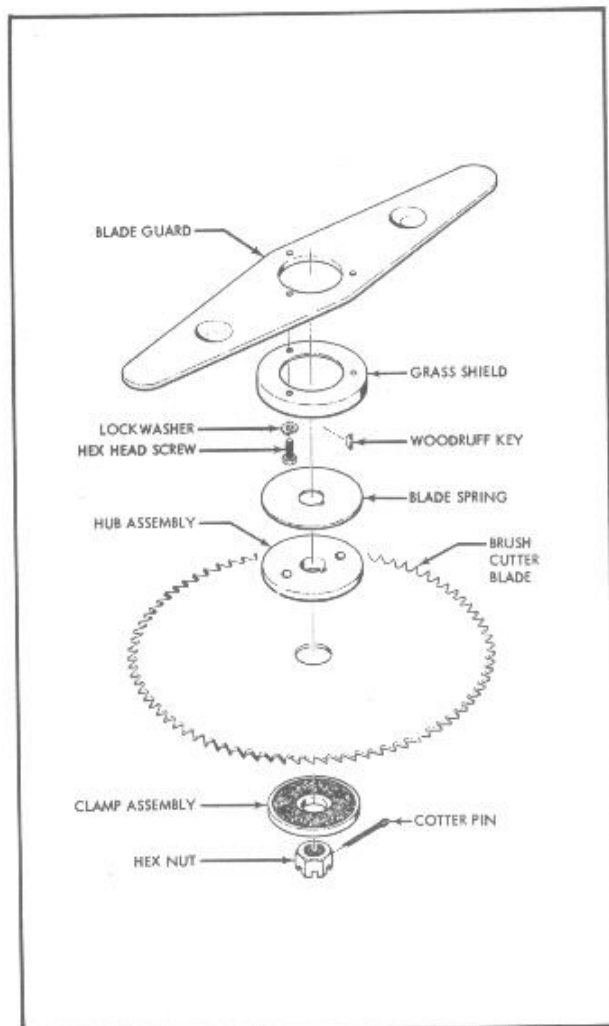

Figure 13. Installation of Brush Cutter Kit 62046
1. Mount the Blade Guard and the Grass Shield on the gear housing drive shaft with three 10-24 x 5/8-inch long screws (P/N 110339 ) and three No. 10 lockwashers (P/N 100352 ). (See Figure 13.)